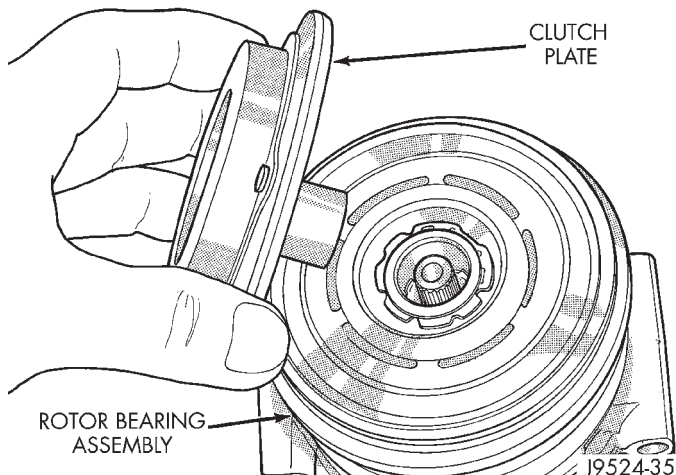

Fig. 27 Clutch Plate Remove/Install
(4) Insert the two pins of the spanner wrench into two holes of the clutch plate. Hold the clutch plate stationary and remove the bolt that secures the clutch plate to the compressor shaft.
(5) Remove the clutch plate (Fig. 27).